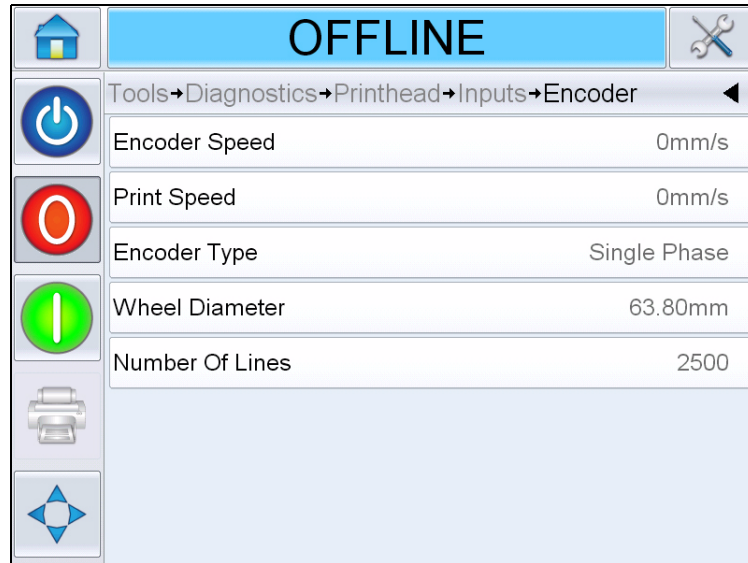

Figure 4-12: Encoder Diagnostics Page
- Encoder: Touch the *Encoder* button to access the *Encoder* diagnostics page. The *Encoder* diagnostics page allows the user to access the following encoder parameters (Figure 4-12 on page 4-12).